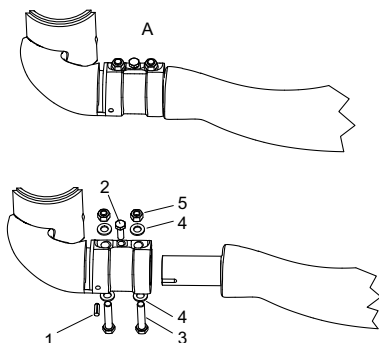

Fig. 16 AFG.xx.180/230
1. Check the premounted pins (pos. 1) (only for positioning).
2. Tighten screw (pos. 2) to widen the opening in the hub.
4. Remove screw (pos. 2).
5. Put Loctite 243 threadlocker on thread of screw (pos. 3).
6. Mount pos. 3, 4 and 5 in both holes and tighten by hand.
7. Tighten both nuts (pos. 5) with a torque wrench to 100 Nm (A4-80).
8. Carry out a visual check. See pos. A in fig. 16.
9. Refit screw (pos. 2) and tighten only slightly.